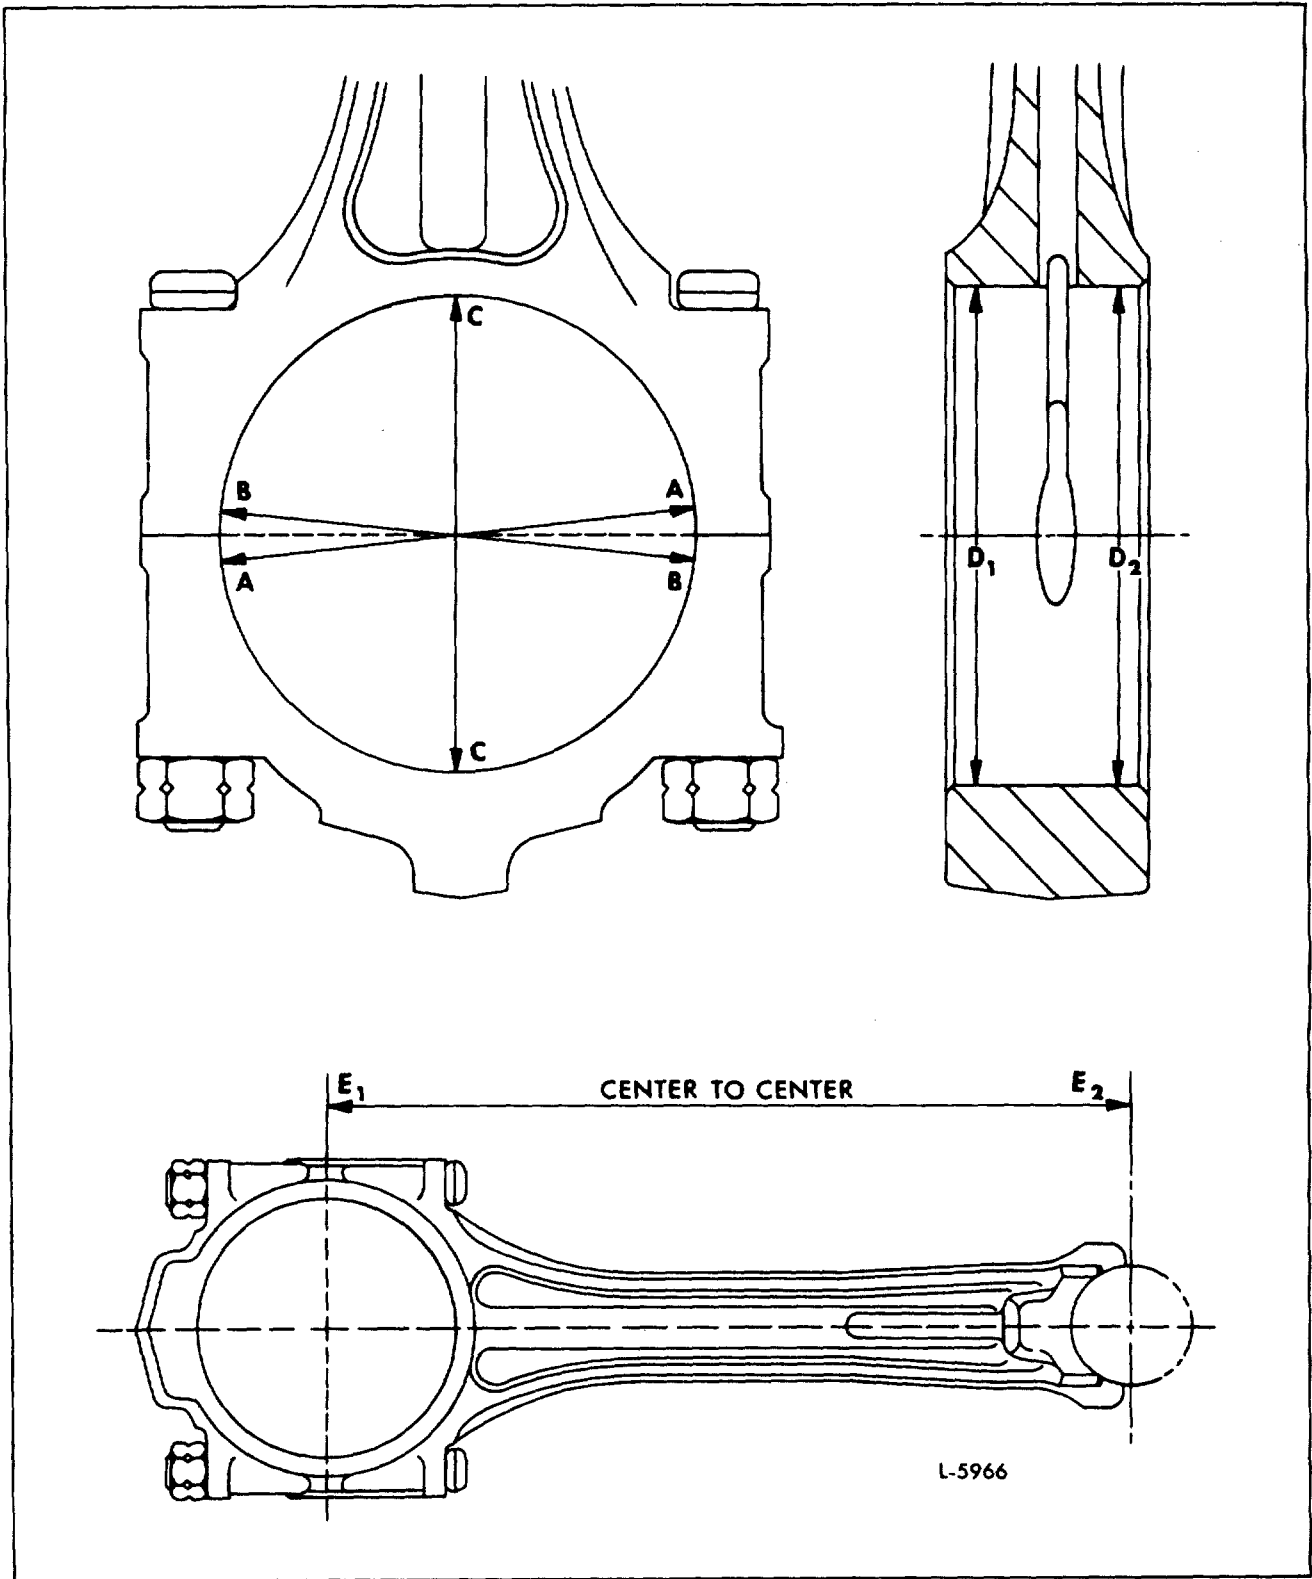

Fig. 3 - Dimensional Inspection of Cross-Head Piston Connecting Rods
2. Determine bore diameter of the rod, using a dial bore gage and master ring as follows (Fig. 3).
- b. Measure diameter A and B as shown in Fig. 3.
4. Determine length by finding the distance between E1 and E2 (Fig. 3).